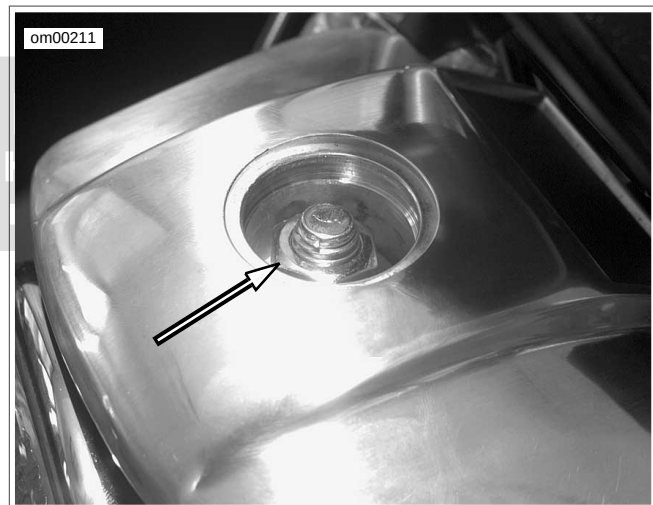

Figure 1-112. Headlamp Clamp Nut: Sportster Models (XL Model Shown)
2. See Figure 1-112. Loosen headlamp clamp nut.